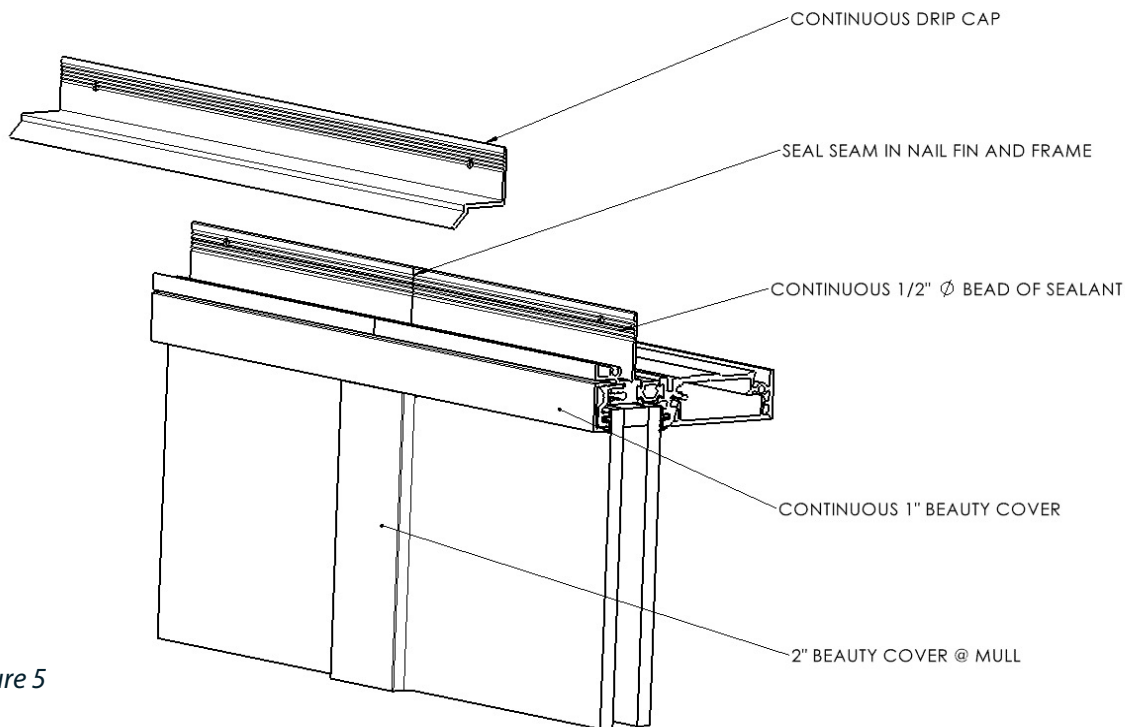

Figure 5
4. With the two windows now mulled, in the opening, shim the frame jambs at the head and sill interface to push and hold the two (2) units together. Note: Take care not to over shim causing the horizontal members to buckle or bow causing an uneven reveal on the window.
7. Seal and fill the seam created at the vertical mull on the exterior face of nail-fin. Tool and smooth out the sealant ensuring the joint is free of voids. (See Figure 5)